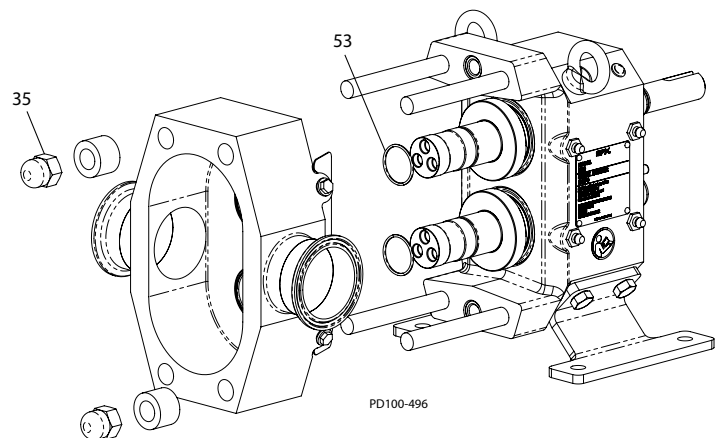

Figure 54 - Body Installation
1. Install the rotor hub seal o-rings (Figure 54, item 53) into the groove of each shaft.
3. Fix the body to the gear case using two spacers and acorn nuts (item 35) at opposite corners of the body. See Table 7 for nominal dimensions required for spacers.